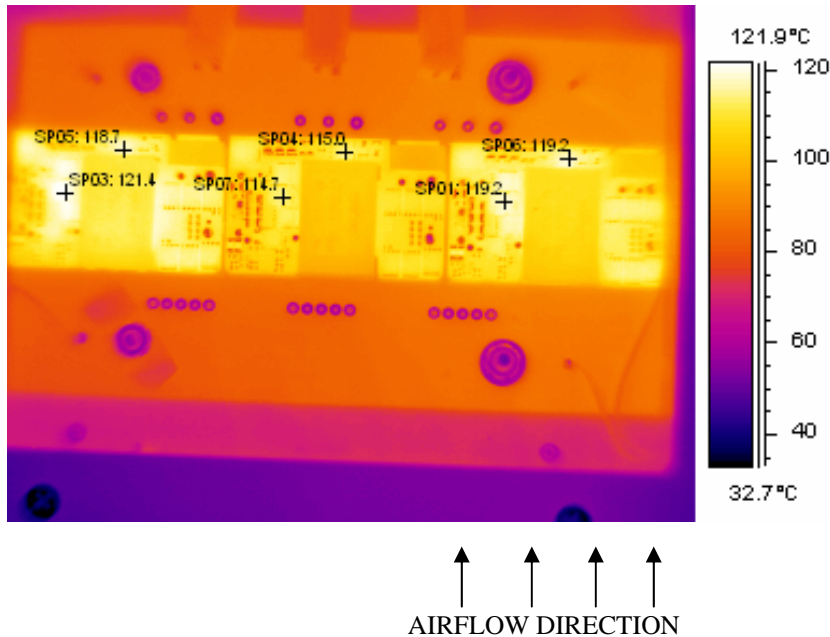

FIGURE 2:
6. Figure 2, below, shows the recommended airflow direction, unit orientation and temperature variation of three paralleled units with 10% current share accuracy. Please note that the maximum power available will be reduced by up to 10% due to current share accuracy. (At 48 volts in, the maximum power available would be 350 W X 3unit X 90% derating = 945 W)